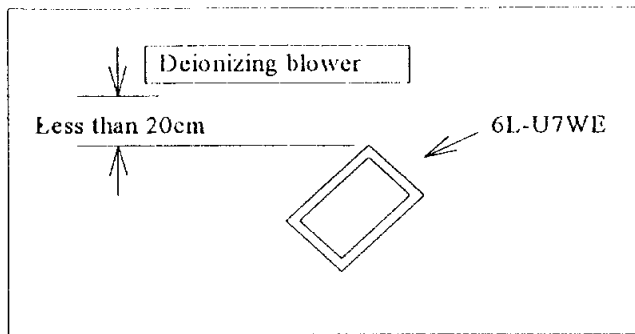

Fig. 1
- The deionizing blower should be oriented a little downward. Keep it within 20 cm of the LCD panel. (see Fig. 1)